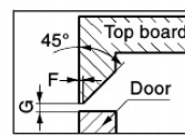

Fig.3
- Install a stopper on the cabinet (Fig.3).